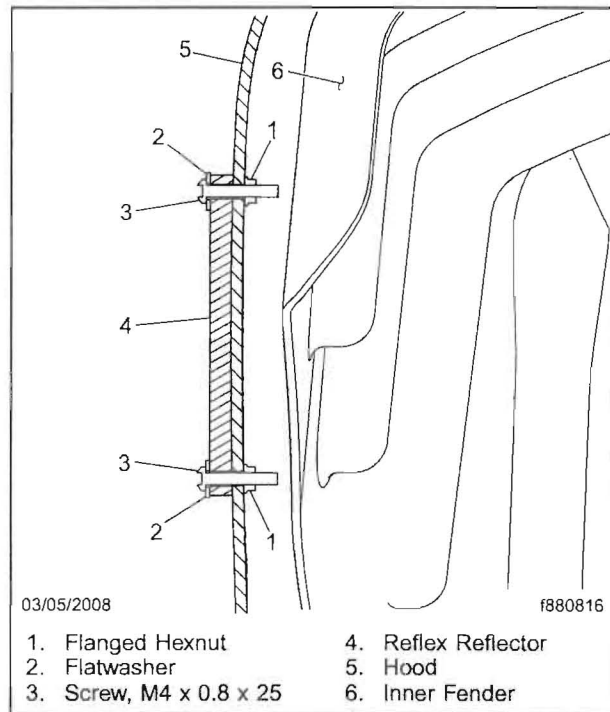

Fig. 2, Reflex Reflector Installation (cross-section view, hood tilted)
8. Open the hood, and from inside the hood, install the flanged hexnuts from the kit on the screws. You will need to work between the inner fender and the hood surface on each side of the vehicle. See **Fig. 2**. Tighten the hexnuts 20 lbf-in (2 N·m).